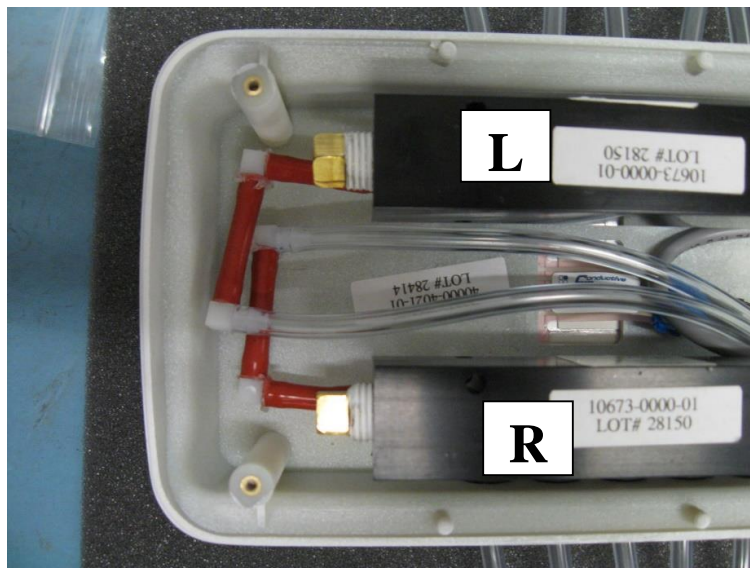

Figure 12
1. Apply a coating of Silicone RTV onto the ends of the plastic fittings of “L” shaped tubing assemblies and insert a 8 ½’ long of tubings onto each of them as shown in Figure 12.